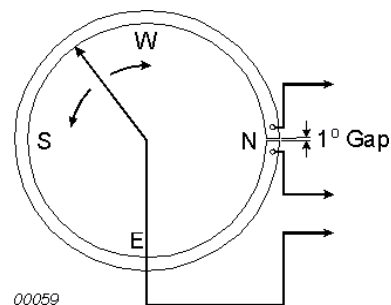

Figure 2
- **Zero dead band-** traditional potentiometers (see figure 2) had a physical gap at North direction which gives rise to an electrical dead band on the output signal and could only cover 0-355 degrees direction. The Casella GMR has no dead band so gives continuous output and 0-360 degrees